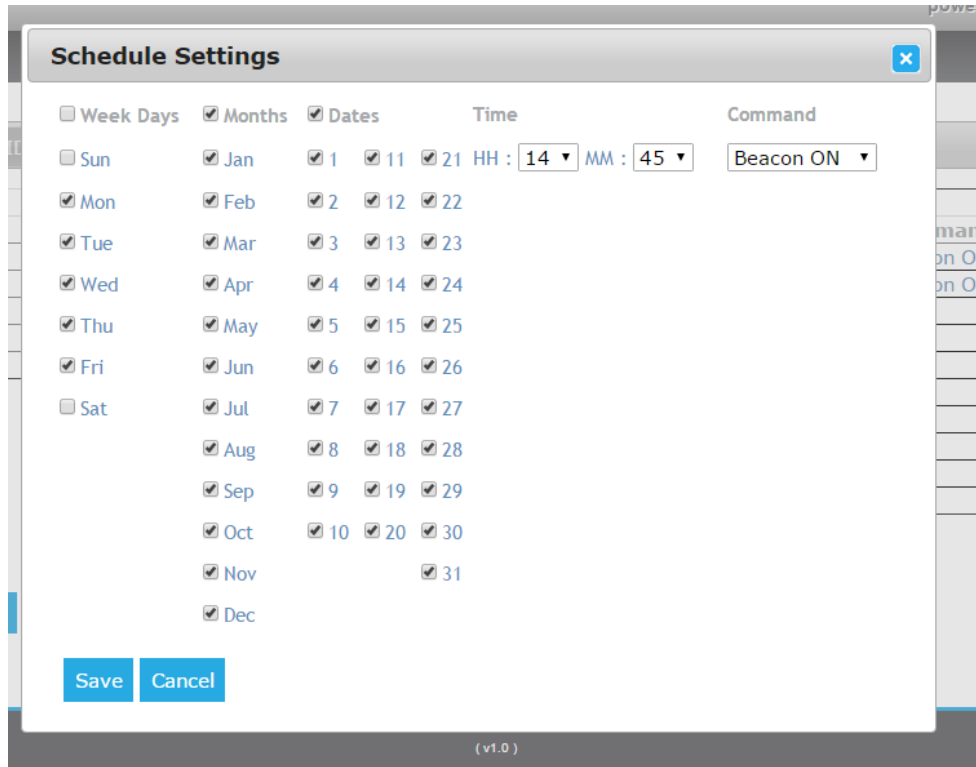

Fig 17: Edit schedule row
14. To schedule holidays and exceptions, click on the **Holidays and Exceptions** tab. The dialog (see Fig 17) will be displayed.